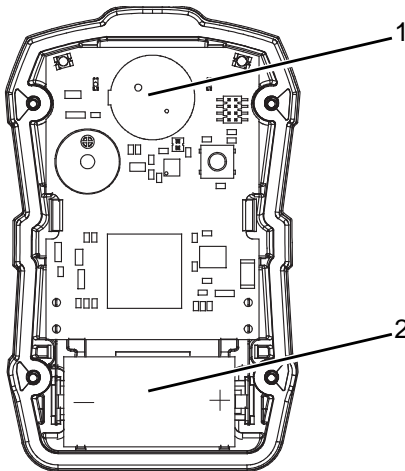

Fig. 14 Sensor and Battery Replacement
- (1) Verify that the device is turned off.
- (2) Remove the four case screws and remove the front case to expose the sensor (located near the top of the device, near the alarm lights → Fig. 14).
- (3) Gently lift out and properly discard the sensor.